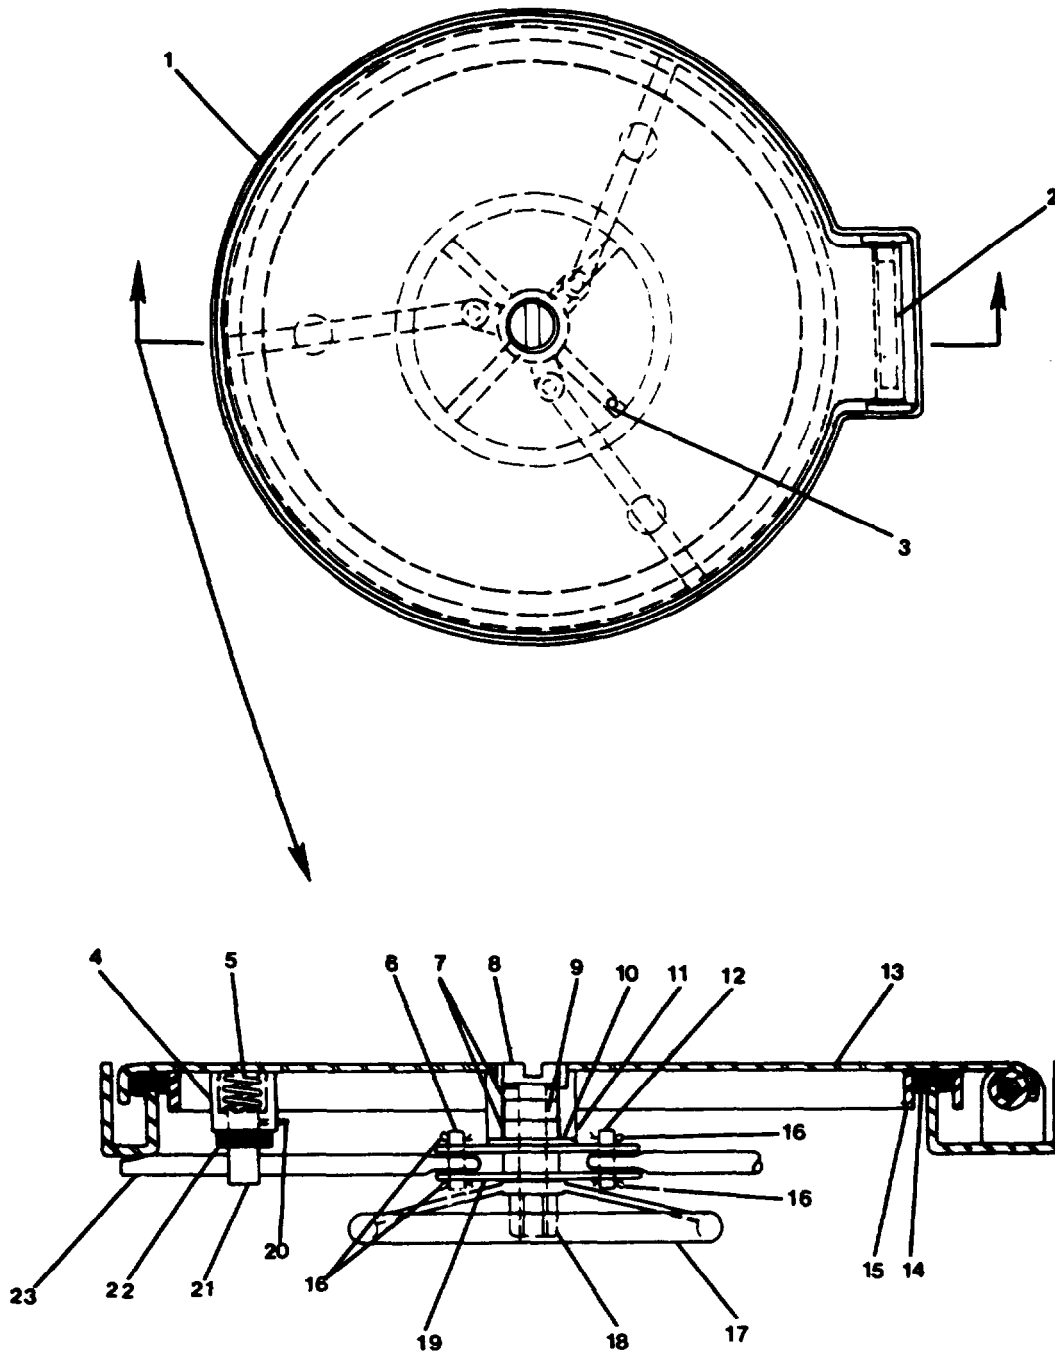

FIGURE 2-181. Repair Watertight Scuttle, Quick Action (Flush).
- a. Remove hexagon nuts (18, FIGURE 2-181) and handwheel (17) from scuttle (1).
- b. Remove cotter pins (16) from cylindrical pins (6), then remove cylindrical pins.
- c. Loosen set screws (20) and remove dog arms (23) from guides (21) from scuttle.
- d. Remove steel bushings (22) and springs (5) from scuttle.
- e. Remove spider (19) and shim (10) from scuttle.
- f. Remove bronze bushings (7) and preformed packing (9).
- g. Then remove dog stud (8) from scuttle.
- h. Remove gasket retainer (15) and gasket (14) from scuttle.